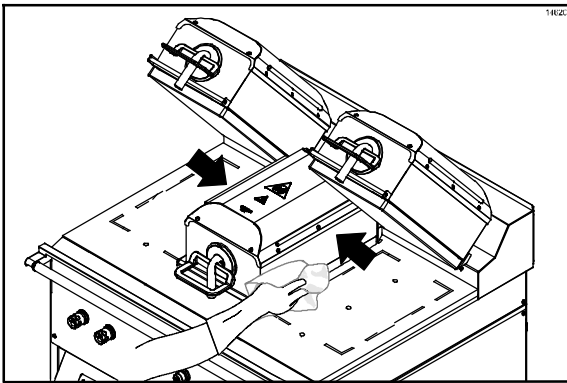

Figure 103
33. Rinse both sides of the center platen. (See Figure 103.)